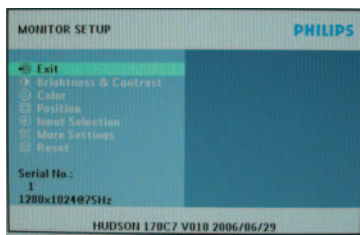

Fig. 24
- Press "OK" button, wait until the OSD menu with Characters "HUDSON 170C7 V010 2006/06-29" (below OSD menu) come on the Screen of the monitor. as shown in Fig24.
- Press "OK" button, wait until the OSD menu with Characters "HUDSON 170C7 V010 2006/06/29" (below OSD menu) come on the Screen of the monitor. as shown in Fig24.